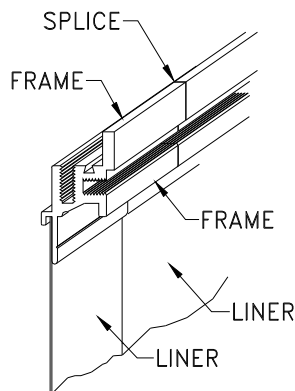

Figure 9
**STEP 3.** Abut the mating sections of the frame together as tightly as possible (see Figure 9). Ensure that the system is level, even, the proper width, flush with the finished floor, and properly aligned.